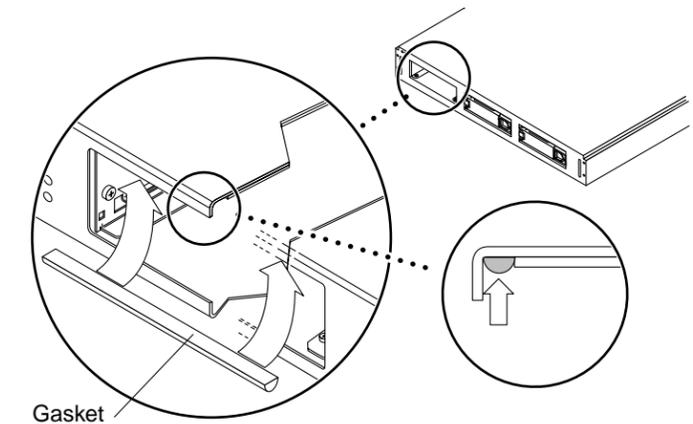

FIGURE 4 Installing the Gasket In the Drive Bay
If the drive bay already contains a gasket (FIGURE 4), you can continue with the disk drive installation by following the procedures in the *Netra st D130 Installation and Maintenance Manual*. Otherwise, continue with this gasket installation procedure.
6. Carefully insert the gasket into the drive bay and firmly press the adhesive surface of the gasket to the top groove of the drive bay. Make sure the gasket extends to both sides of the drive bay and is under the drive bay's top lip (FIGURE 4).